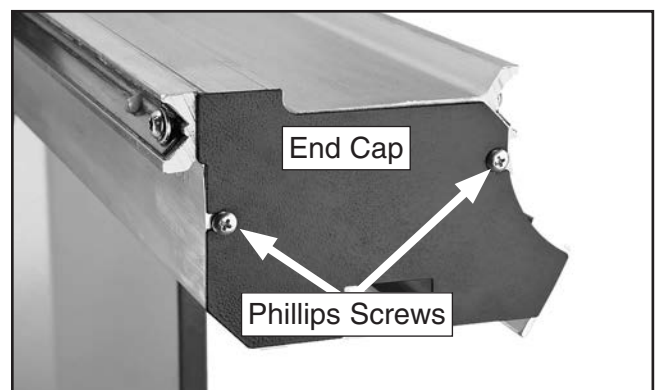

Figure 24. End cap secured on sliding table with Phillips screws.
- Attach end cap (as shown in **Figure 24**) with Phillips screws already threaded into those same holes on the sliding table.